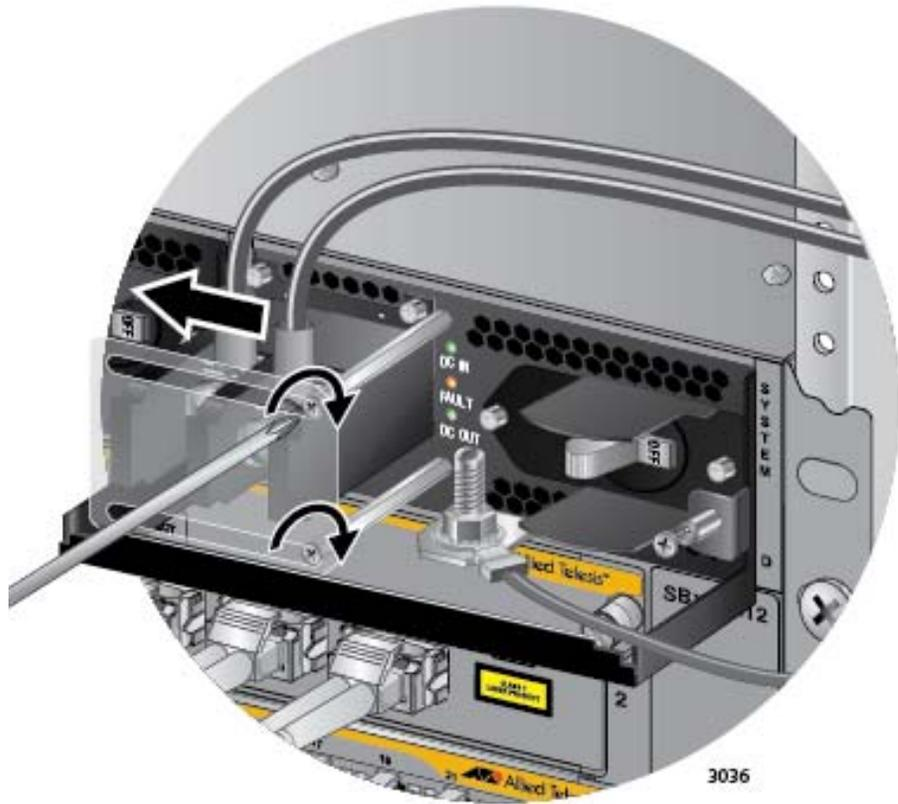

Figure 128. Closing the Plastic Cover over the Terminal Connectors
8. Slide the plastic cover to the left and lightly tighten the two screws with a #1 Phillips-head screwdriver to secure the cover. See Figure 128 on page 196. You might need to lift the locking handle slightly to access the bottom screw.
6. Slide the plastic cover to the left and lightly tighten the two screws with a #1 Phillips-head screwdriver to secure the cover. See Figure 128 on page 196. You might need to lift the locking handle slightly to access the bottom screw.